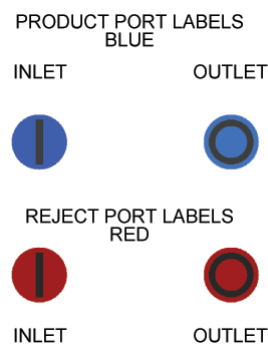

Figure 3-2: VNX Port Labels
Product and reject port locations are identified with color coded labels affixed near the appropriate endblock connection points. Product port inlets (I) and outlets (O) are identified with BLUE labels, and reject port inlets (I) and outlets (O) are identified with RED labels. Figure 3-2 (below) shows what the labels look like.